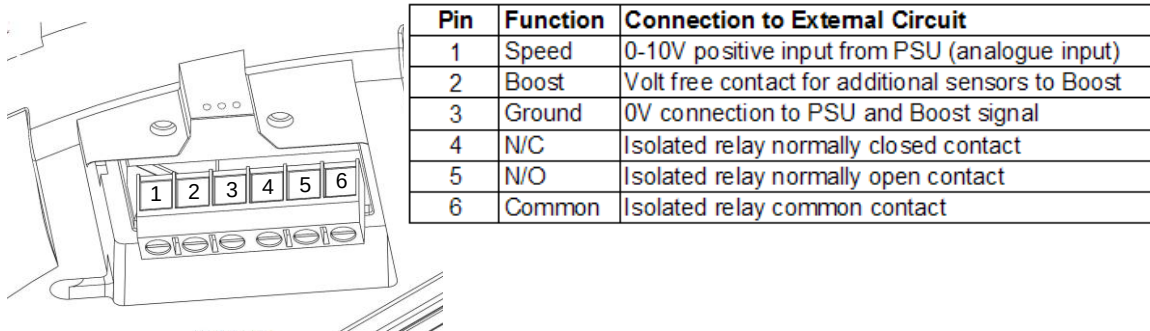

Figure 20 – BMS Wiring Configuration
- 2.8.6 Now wire into the connector pins. 1 – 3 are for speed control, 4 – 6 are for fault indication (*See Figure 20*).